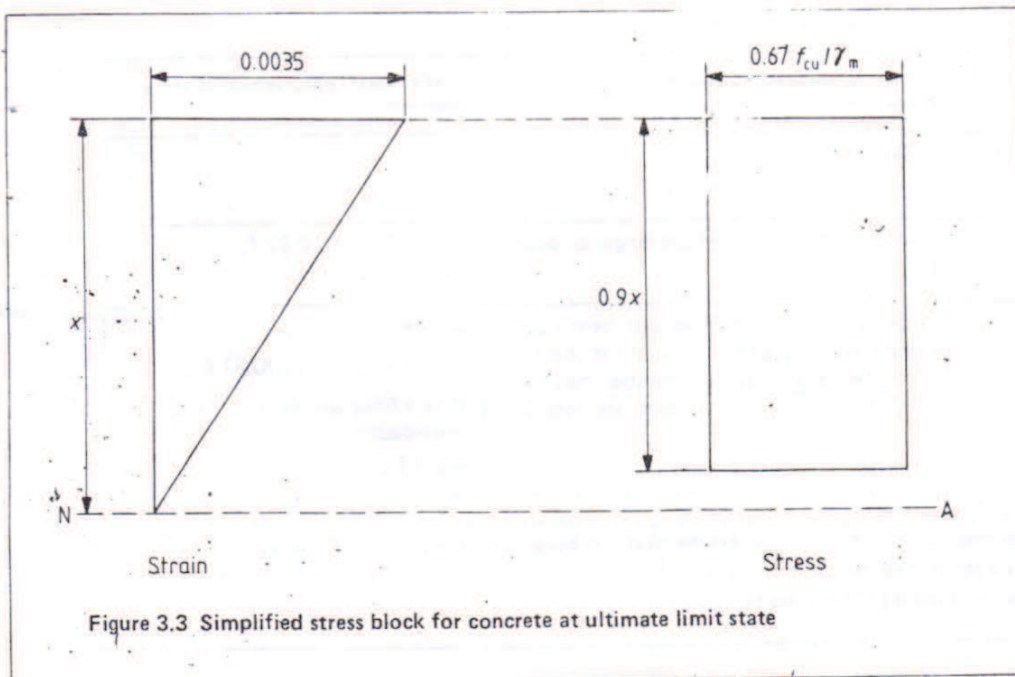

Figure 3.3 Simplified stress block for concrete at ultimate limit state
**3.4.4.4 Design formulae for rectangular beams.** The following equations, which are based on the simplified stress block of figure 3.3, are also applicable to flanged beams where the neutral axis lies within the flange: